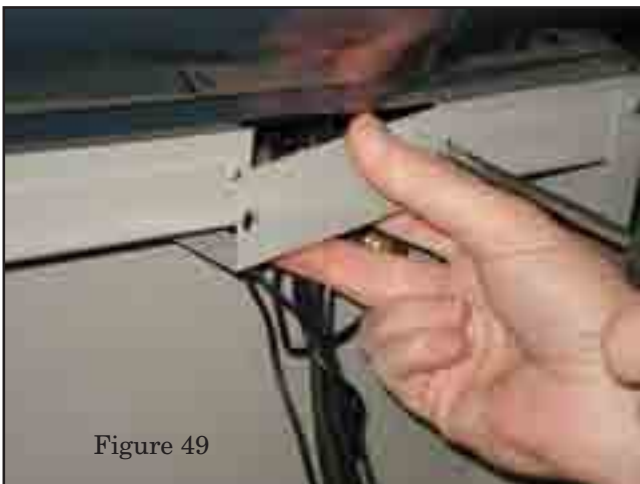

Figure 49
4. Remove the panel to gain access to the strain relief cable clamp. See Figure 49.